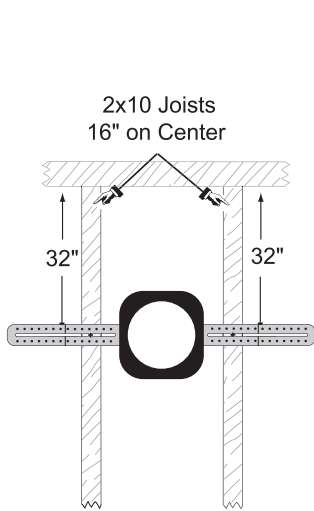

Figure 3
- C. Adjust the bracket to that the other side aligns with the other marking and install a screw through the speaker brackets adjustment channel. (**See Figure 3**)
NOTE: Figures 3 through 7 can be found on page 2 of this instruction sheet.